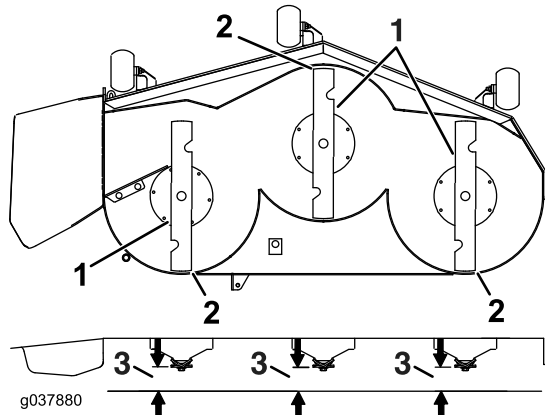

Figure 97
7. Check the front-to-rear blade level (Figure 97). Ensure the front blade tip is lower than the rear blade tip as shown in the block height and rake table. If adjustment is needed, continue with this procedure.